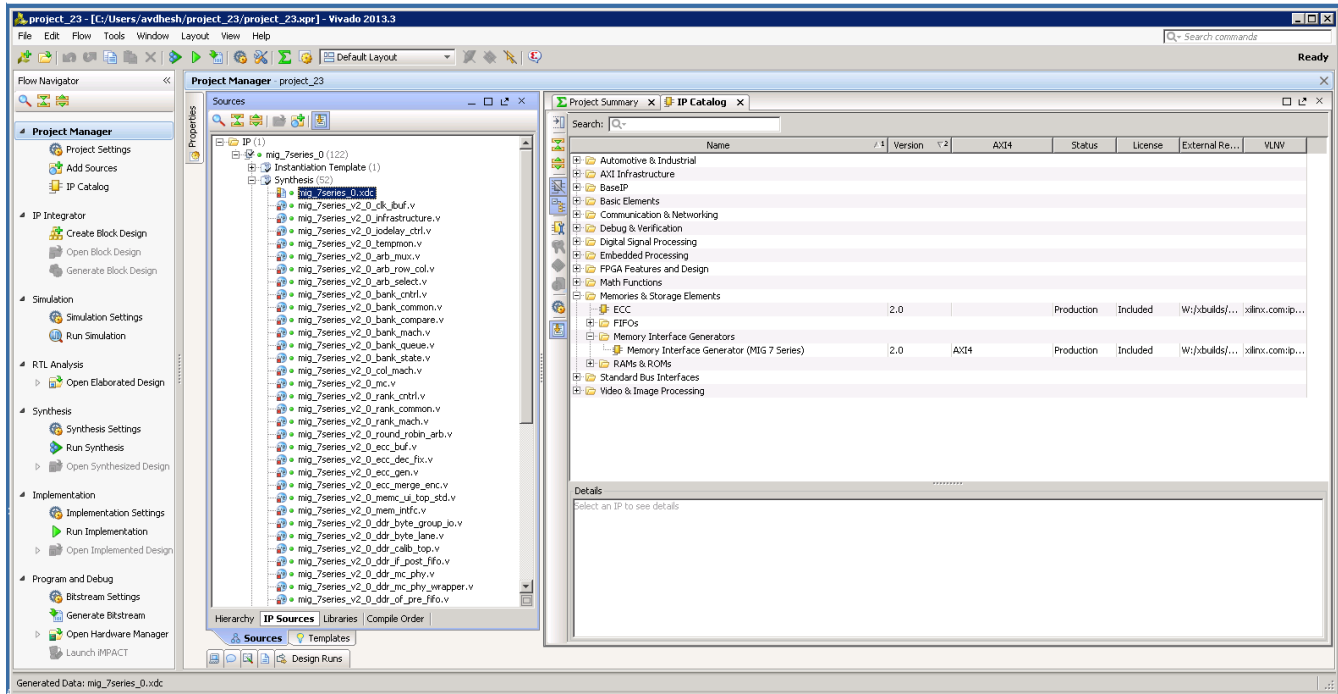

Figure 1-33: Generate RTL and Constraints
- All MIG generated user design RTL and XDC files are automatically added to the project. If files are modified and you wish to regenerate them, right-click the XCI file and select **Generate Output Products** (Figure 1-33).